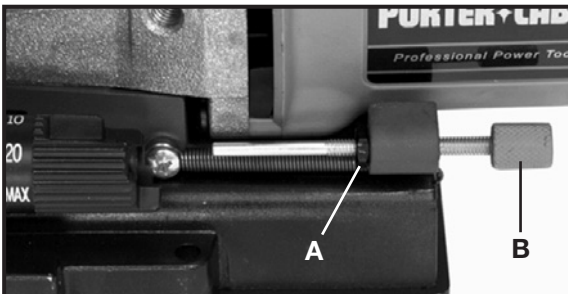

Fig. 3
1. Use an  $\frac{7}{16}$ " wrench to loosen lock-nut (A) Fig. 3.
2. Rotate fine adjustment knob (B) Fig. 3, to desired position (rotate knob clockwise to reduce depth of cut, rotate knob counterclockwise to increase depth of cut).